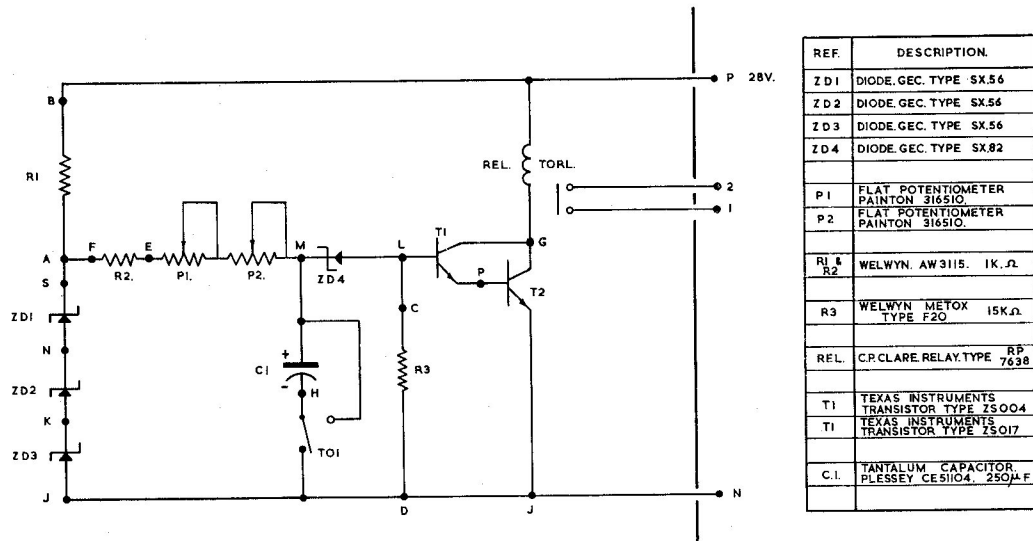

Fig. 3. Wiring schematic diagram
6. On an input of 24 to 30 volts d.c. the unit provides a time delay of between 0.5 to 6 seconds in the operation of a sealed relay. The period of the time delay is governed by the settings of the potentiometers. The input, normally 28 volts d.c., is fed to a stabilized resistor-capacitor network which energizes a transistor network that causes the relay to operate. Referring to wiring schematic diagram, fig. 3, Zener diodes ZD1, ZD2 and ZD3 stabilize and hold the input constant. The settings of potentiometers P1 and P2 govern the charging rate of capacitor C1. When the capacitor is charged to the breakdown voltage of Zener diode ZD4, which is loaded by resistor R3, the Zener diode conducts and energizes transistors T1 and T2. The transistors cause the relay to operate. Capacitor C1 is short-circuited when the relay is energized and thus the unit is reset for the subsequent operation.